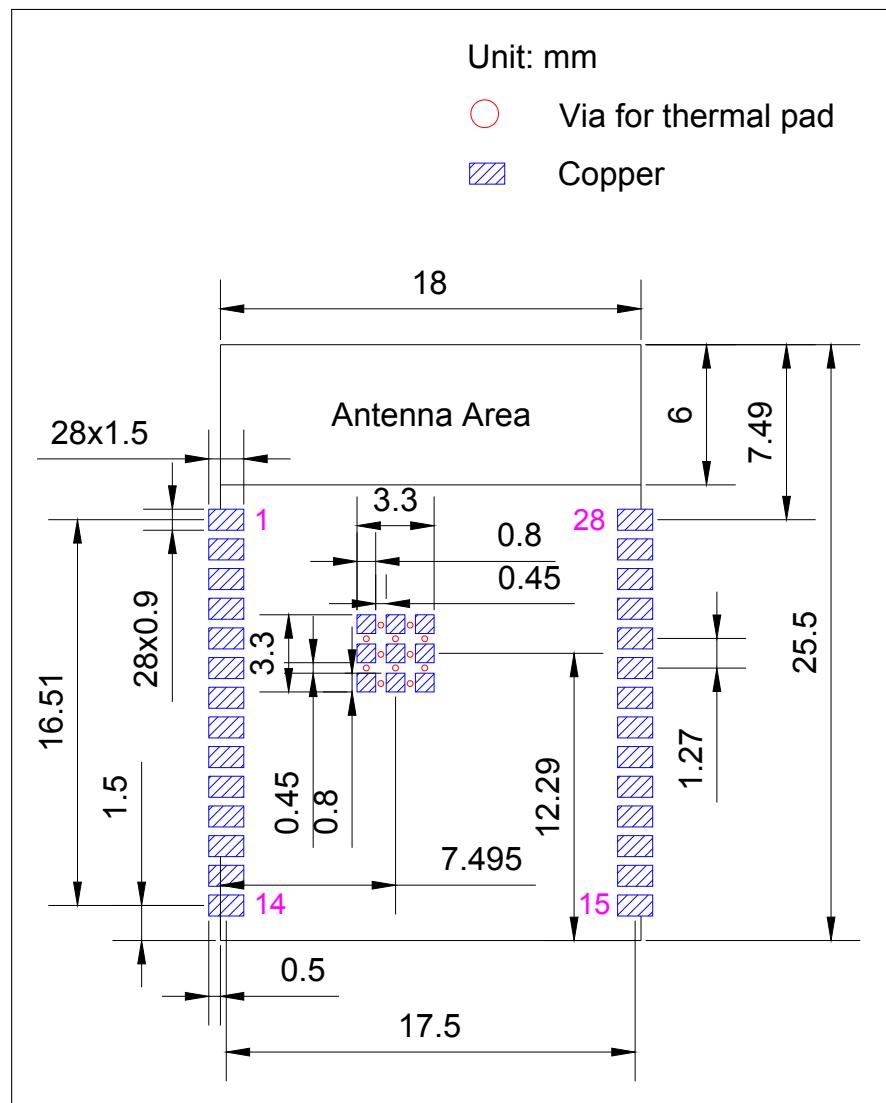
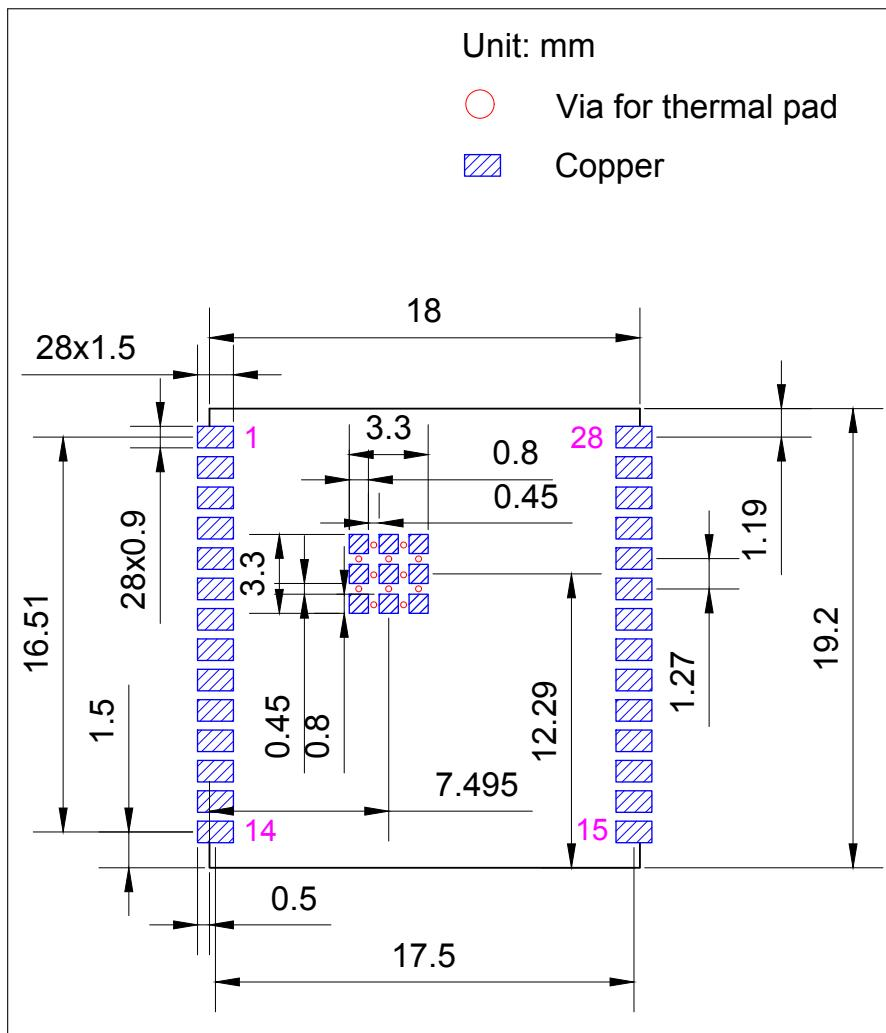

Figure 11-1. ESP32-C6-WROOM-1 Recommended PCB Land Pattern
Figure 11-2. ESP32-C6-WROOM-1U Recommended PCB Land Pattern
- Figures for recommended PCB land patterns with all the dimensions needed for PCB design. See Figure 11-1 ESP32-C6-WROOM-1 Recommended PCB Land Pattern and Figure 11-2 ESP32-C6-WROOM-1U Recommended PCB Land Pattern.
- Source files of recommended PCB land patterns to measure dimensions not covered in Figure 11-1 and Figure 11-2. You can view the source files for ESP32-C6-WROOM-1 and ESP32-C6-WROOM-1U with Autodesk Viewer.